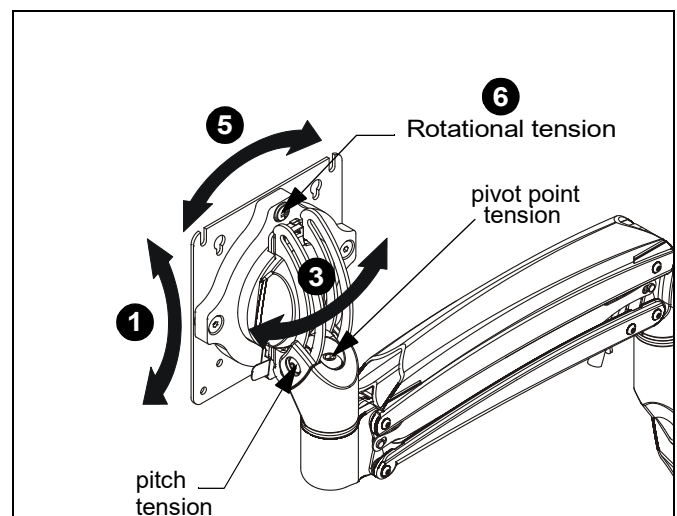

Figure 16
1. Adjust pitch to desired tilt position. (See Figure 16)
2. Adjust pitch tension screw to change the adjustment tension. (See Figure 16)
3. Adjust pivot position as desired. (See Figure 16)
4. Use 3/16" hex key (K) to adjust pivot point tension screws to change pivot adjustment tension. (See Figure 16)
5. The monitor may be adjusted 90 degrees in either direction in order to provide a portrait view of the monitor. (See Figure 16)
6. Use 3/16" hex key (K) to adjust rotational adjustment screw to adjust rotational tension. (See Figure 16)